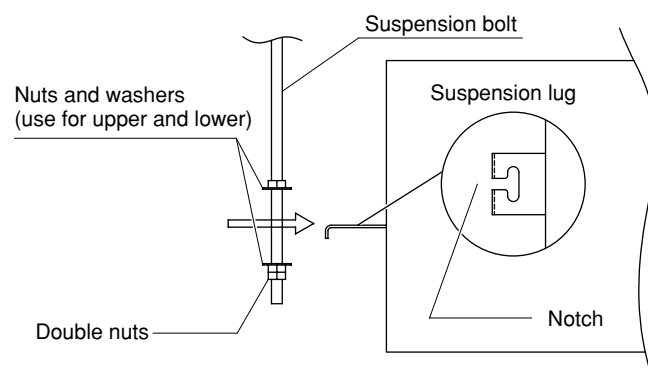

Fig. 3-60
- (3) Thread the 3 hexagonal nuts and 2 washers (field supply) onto each of the 4 suspension bolts as shown in Figs. 3-60 and 3-61. Use 1 nut and 1 washer for the upper part, and 2 nuts and 1 washer for the lower part, so that the unit will not fall off the suspension lugs.